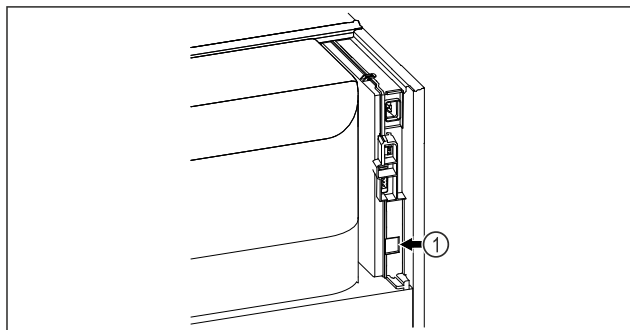

Fig. 99
- ☐ SmartModule Fig. 99 (1) is in use.